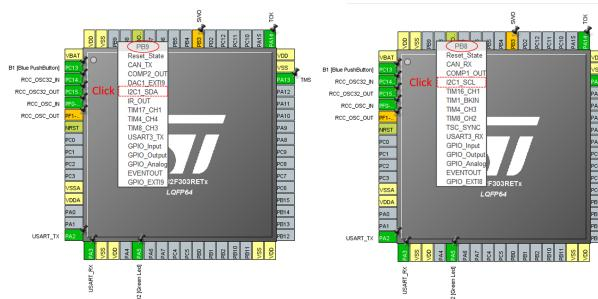

Figure 3.4: Choose the functions of the pins [3].
- We notice that some pins on the have different colors. The green color indicates that the pin is used and that the function used is activated. For example, the *PA5* pin is used to control the LED on the map. The orange colored pins indicate that the pins are reserved for certain functions but that these functions are not activated. In order to configure a function of a pin, take for example the *PB8* and *PB9* pin. Let's click on it to display all the functions available via these pins. In order to select a click on the desired function, in this case we want to control an I2C, choose functions framed red dotted on the fig. 3.4 ;